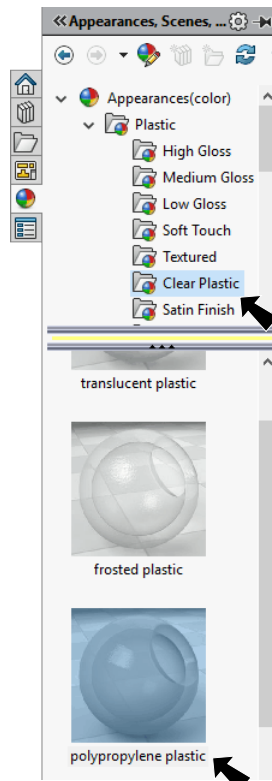

Fig. 17
Step 2. In the Appearances Task pane, expand **Plastic**, click **Clear Plastic** and in the lower pane select **polypropylene plastic**, **Fig. 17.**